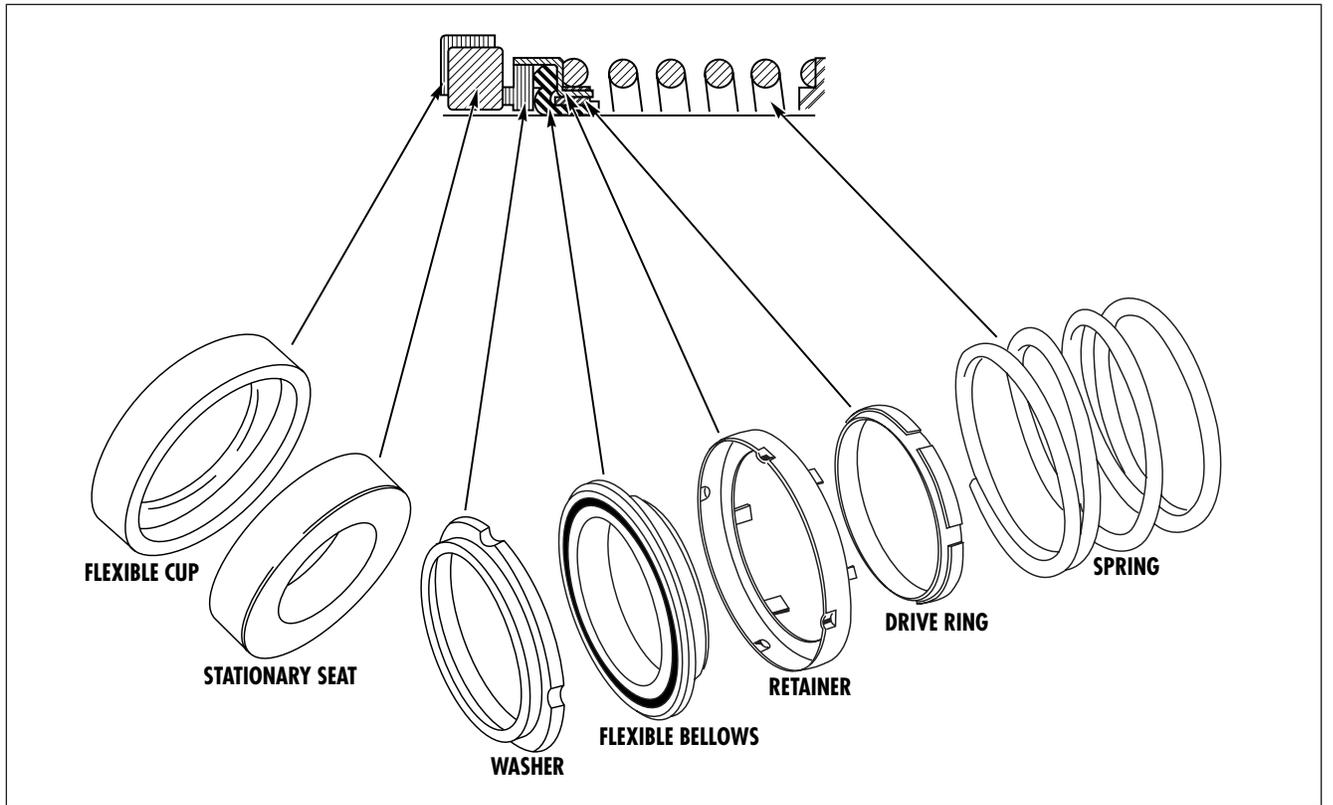

Figure 1. Mechanical Seal
The mechanical seal (see Figure 1) is a precision product and must be treated as such. During removal, great care must be taken to avoid dropping any part of the seal. Take particular care not to scratch the lapped faces on the washer or the sealing seat. If any wear of the seal faces is noted, it is recommended to replace with a new seal during reassembly.
1. Press grease seals (51) into frame (57). (344A)
2. Press bearings (53 and 54) onto shaft (55). Snap retainer ring (52) into place. (344A)
3. Slide shaft (55) and bearings (53 and 54) into frame (57) until retainer ring on bearing (54) comes in contact with frame (57). Place "O" ring (oil lubed only) (50) in place. (344A)
4. Fasten bearing cap (49) in position with capscrews (48). Insert grease seals (51A) and position slingers (47 and 47A) on the shaft. (344A)
5. The mechanical seal (27) (see Figure 1) cannot be installed as an assembly. It is necessary to have the seal seat properly in place in bracket (35) before the balance of parts can be added.
7. If nameplate (34) was removed, install and attach with screws (33).
8. Wipe the sealing faces of the seat and seal washer clean. Replace pin (61) in sleeve if it was removed during disassembly. Apply a film of liquid dishwashing detergent to the washer and bellows of the seal and slide the remaining seal parts onto the sleeve making sure the washer is seated against the seal seat. Check the proper sequence of assembly as indicated in Figure 1. The shaft sleeve with the seal rotating assembly on it may now be replaced onto the motor shaft. Spring tension will probably prevent the sleeve from remaining in position axially until the impeller is locked against it.
9. Press wearing ring(s) (7 and 16) in casing (6) and bracket (35). Rings should not be hammered into place. Use a press, or clamp the parts in a bench vise, using wooden blocks to protect the rings. It may be necessary to pin or dowel the rings after assembly if the insert or casing has had rings replaced before, since each reassembly can stretch or tear metal and thereby loosen the fits. If the facilities are available, it is good practice to take a very light finish cut or to ream the inside diameter of the casing rings after pressing to restore roundness. When rings are pressed, they may get squeezed out of shape.
10. Coat the mating surfaces of impeller wear ring(s) (optional - 14 and 15) and impeller (11) with Loctite sealant grade 271. Replace wear rings, using the same care as for the case wear ring(s). If the rings are to be trued on a lathe, do not clamp the impeller so tightly that it is permanently distorted.
11. Carefully replace gasket (10) on motor end of impeller. Assembly key (12) and impeller (11) to motor shaft. Secure impeller with gasket (9B), washer (9A), capscrew seal (9C) and impeller screw (9).
12. Install the two pipe plugs (4) in the pump casing. Position the gasket (8) and casing (6) against the motor bracket and secure with screws (5). On Model 342A pumps position gasket (72) and set pump assembly in place. Tighten pump to base (73) with capscrews (39).
13. Replace all relief, cooling, flushings, or drain lines from the pump including compression connections (1 and 2) and tubing (3). Replace all grease fittings pipe plugs, tube vents and oiler assembly for oil lubricated units. Connect discharge piping and suction piping, if required. Make sure to install gaskets on the flanged connections. On Model 342A pumps replace plugs (74 and 75) in base elbow (73).